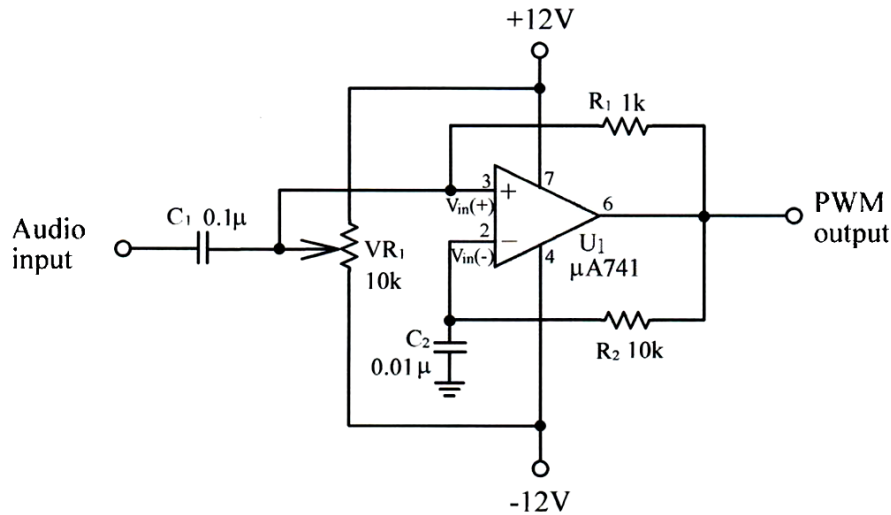
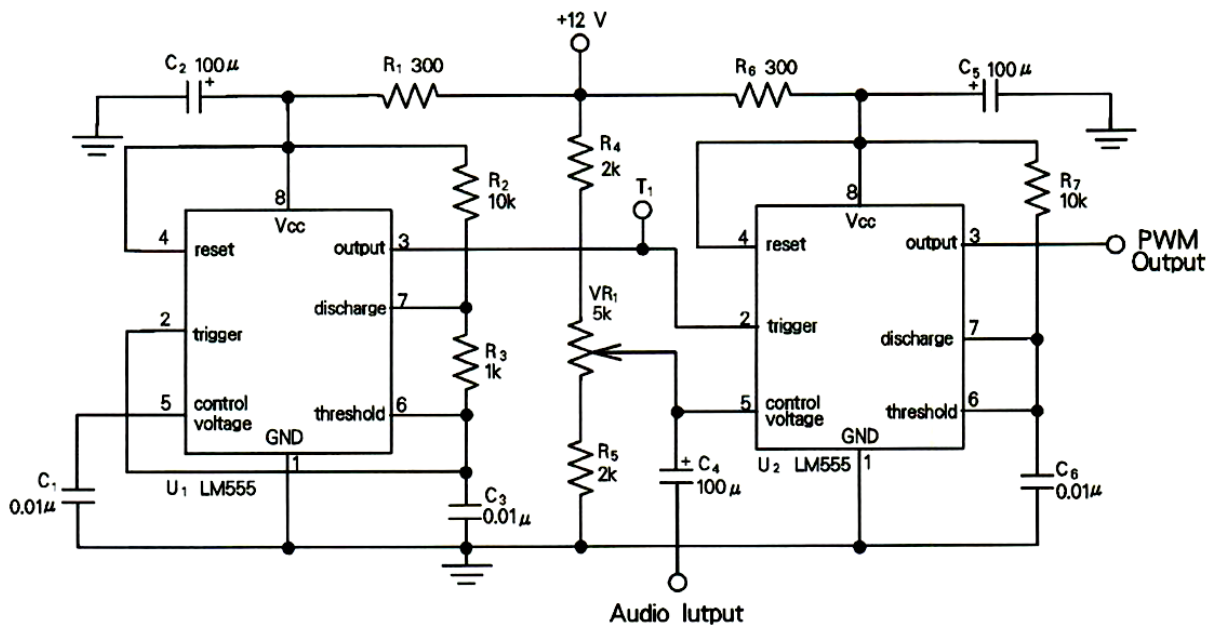

Figure 7-2 The pulse width modulator based on  $\mu A741$
Figure 7-7 Fig 11-7 Pulse Width Modulator
A square-wave generator or a monostable multi-vibrator can be used to generate the PWM signal. Figure 7-2 shows a square generator whose output pulse width is determined by the values of  $R_2$ ,  $C_2$  and  $V_{in}(+)$ . The  $\mu A741$  operational amplifier acts as a voltage comparator. The reference voltage at  $V_{in}(+)$  input (pin 3) is determined by the resistor values of  $R_1$  and  $VR_1$ . The combination of  $R_2$  and  $C_2$  provides the path for charging and discharging. When no audio signal is applied, the dc reference voltage at  $V_{in}(+)$  input can be changed by adjusting the  $VR_1$  value. If dc level of  $V_{in}(+)$  is fixed and an audio signal is applied to the audio input, the audio signal is added to the fixed dc level and the reference voltage will be changed with the change of audio amplitude. The resulting PWM signal presents at the output of the comparator.
Figure 7-7 shows a pulse-width modulator using two LM555 timers. In this circuit the U1 and U2 perform the astable and monostable multivibrators, respectively. Combining these two sections, the pulse width modulator is completed. The trigger clock of monostable multivibrator (U2) comes from the output (pin 3) of astable multivibrator (U1). The audio signal is connected to the U2 control voltage input (pin 5) and the PWM signal appears at the output (pin 3).
- (1) What is the function of VR1 in Figure 7-2 and Figure 7-7.
- (2) If the C6 value in Figure 7-7 is changed to 0.1  $\mu$ F, is the output still a PWM waveform? Explain.
- (3) In a point of view of voltage polarity, what is the difference between the output PWM signals in experiments 11-1 and 11-2?